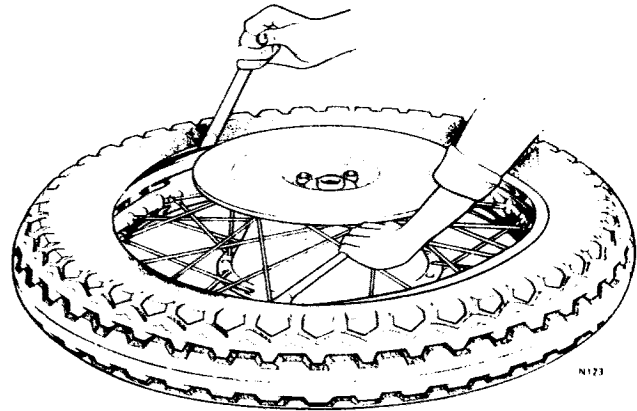

Fig. H11 Two tire levers in use to remove first bead of tire
8 Remove the first lever and re-insert at the next stage, continuing round the rim a little at a time (see *Fig. H11*) until the beading can be pulled clear of the rim.
- 9 Remove the first lever and re-insert at the next stage, continuing round the rim a little at a time (see Fig. H11) until the bead can be pulled clear of the rim.